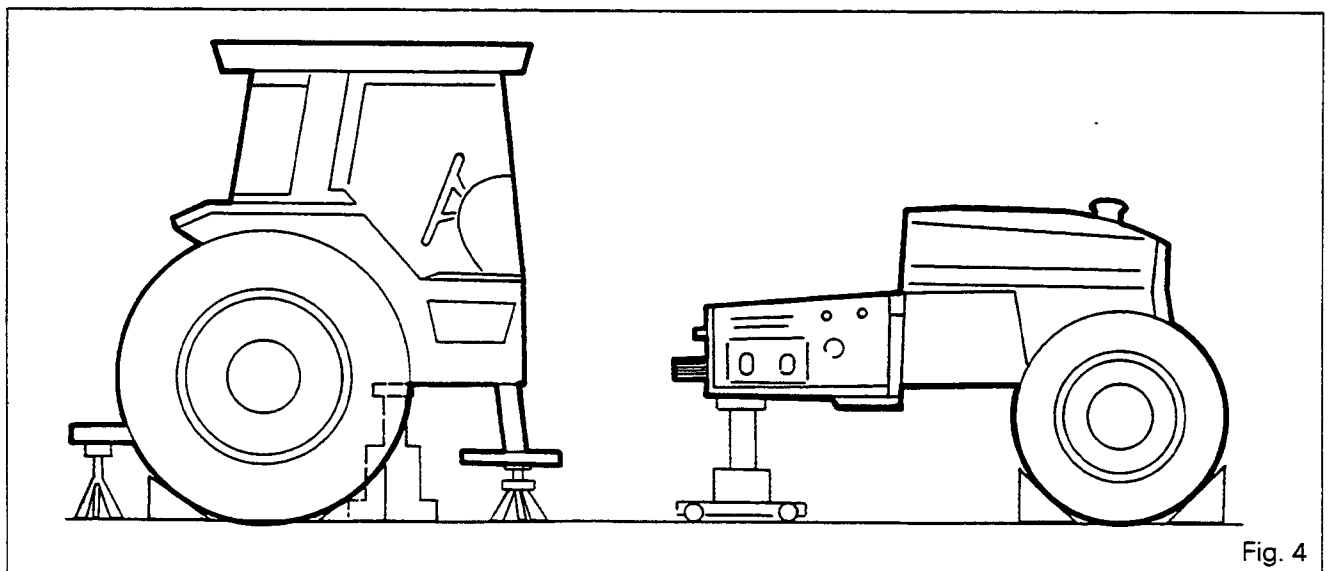

Fig. 4
21. Separate the gearbox from the rear axle (Fig. 4).